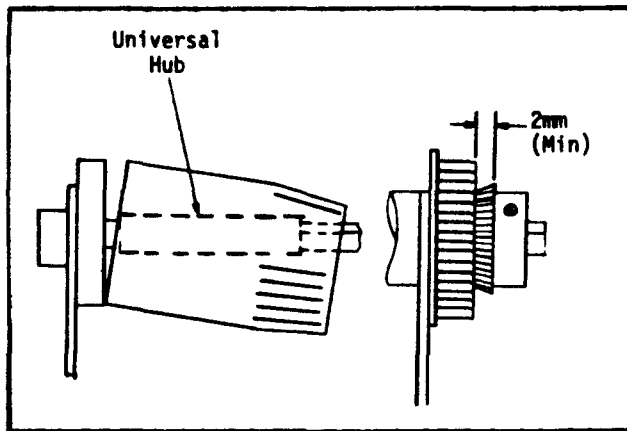

Figure 3.
- E. Press down on the universal cylinder until it contacts the universal hub and hold it in that position (Figure 3).
- F. The distance between the drive pulley face and the Spline Gear face should be a minimum of 2mm (.078") (Figure 3). If the gap is less than 2mm, repeat the procedure.